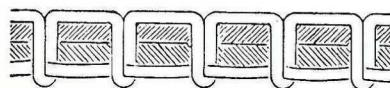

Fig. 12
- c. If tension of needle (upper) thread is too loose, or tension of bobbin (lower) thread is too tight, bobbin thread will lie straight along underside of fabric and needle thread will be pulled down to underside, being visible there in form of loops or small knots (Fig. 12). To correct this condition, make certain that the presser foot is down, then turn Regulating Knob *to the right*.